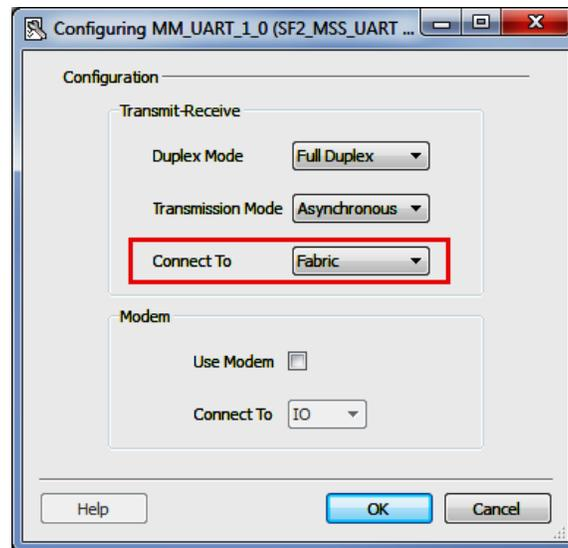

Figure 10 • MMUART Configuration - Fabric Connection
- From the MMUART configuration window, select **Fabric** from the **Connect To** drop down list under **Configuration** and leave the other settings default as shown in Figure 10. The MMUART signals are routed through the fabric and connected to the R29 and R24 package pins. The R29 and R24 pins are connected to the FTDI or mini-USB interface using the J129 and J133 jumpers.